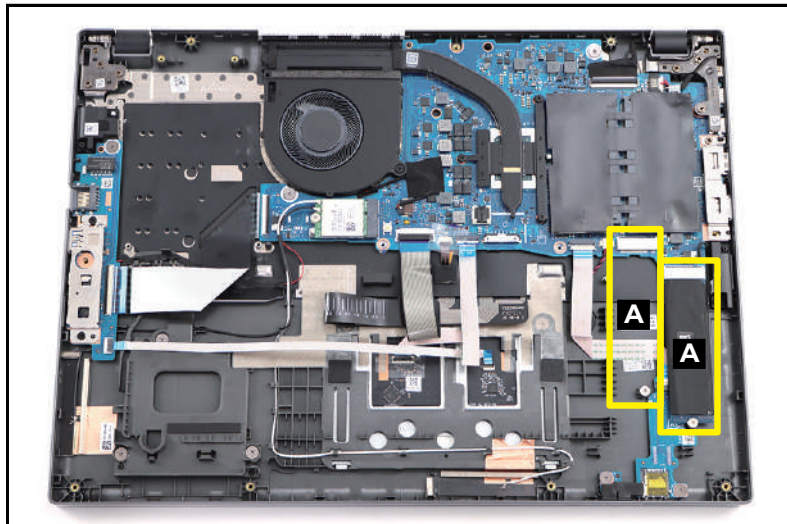

Figure 3-18. SSD Modules Location
1. Find the SSD modules (A) on the top assembly (Figure 3-18).